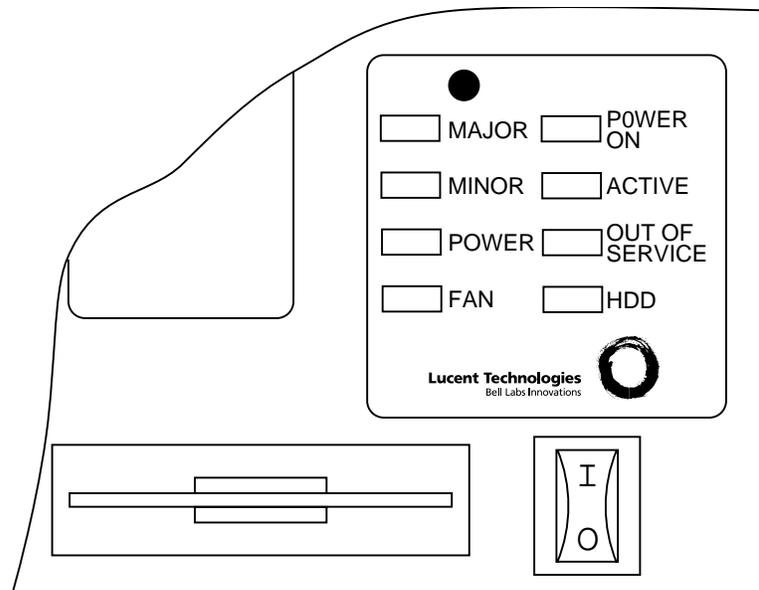

Figure 1. The CDSU-II Control Panel
2. Remove power from the CDSU-II by moving the **ON/OFF** switch on the CDSU-II control panel (Figure 1) to the OFF position.